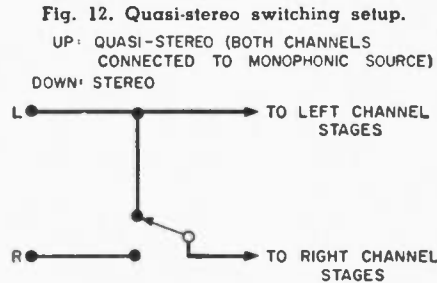

Fig. 12. Quasi-stereo switching setup.
4. *Quasi-Stereo Switching:* This feeds the left (or right) signal to both channels, as shown in Fig. 12, permitting one to hear a monophonic source on both speaker systems, thus providing a quasi-stereo effect. While a system that provides monophonic disc switching (Item 3) in a sense also permits quasi-stereo switching, the reverse is not true. For example, some stereo amplifiers can feed the left signal to both channels but they cannot also feed the right signal to both channels. To sum up, it may be desired to feed both signals to both channels (monophonic disc switching) or it may be desired to feed one signal to both channels (quasi-stereo).